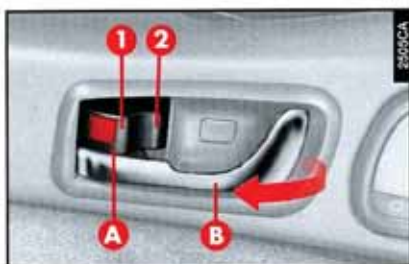

fig. 13
OPENING/CLOSING FROM INSIDE (fig. 13)
– **From inside:** with the doors shut, press one of the buttons (A-fig. 13) on the doors, in position (1) to activate or in position (2) to deactivate the centralized locking system.
WARNING It is not possible to keep the knob (A-fig. 13) down if the door has not been shut properly.